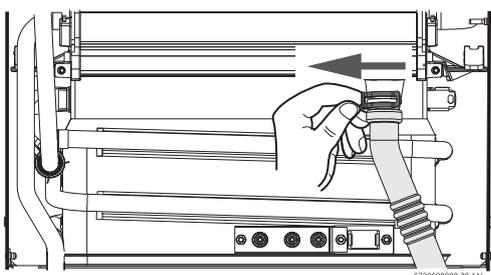

Fig. 31 Disconnect drain tube
- ▶ Remove the clip and disconnect the drain tube, see Fig. 31.